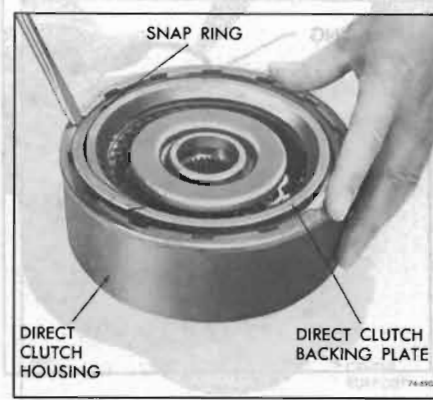

Figure 74-690
10. Install the backing plate retaining snap ring. See Figure 74-690.